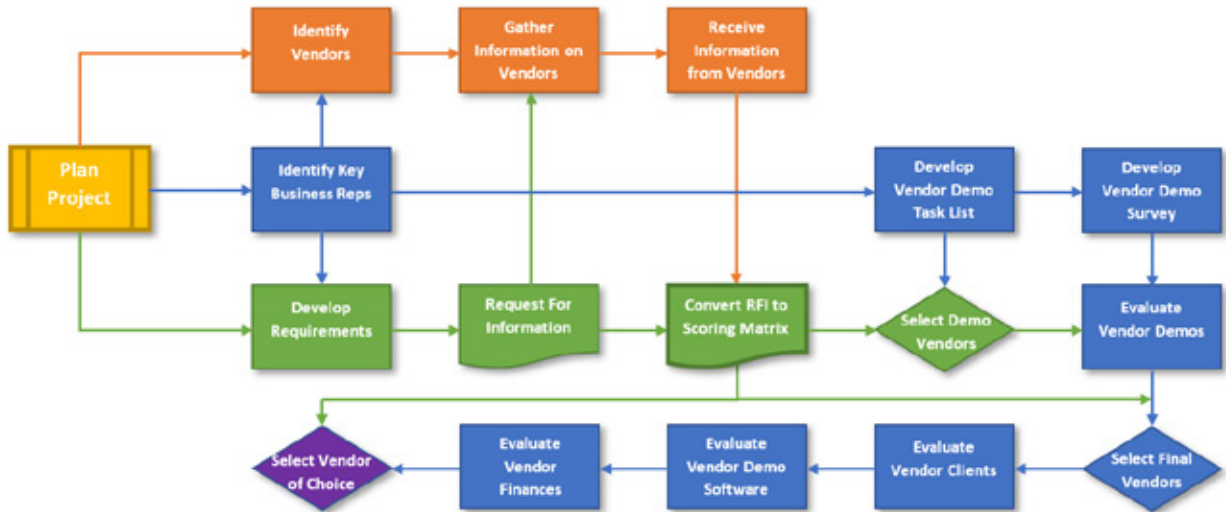

Figure 1. Selection Process.
The process we used is illustrated in Figure 1. Three main work flows were started together: (1) Identify Key Business Representatives, (2) Develop Business Requirements, and (3) Identify Vendors (Suppliers).
Each response was then valued and weighted and added together to arrive at a total Vendor Response Score. We then used this Score in several different phases of our selection process. Refer back to Figure 1.